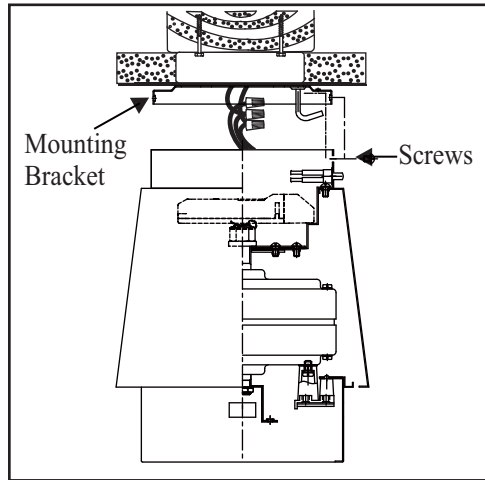

Figure 8
1. Move fan into position over the mounting bracket and secure with the 4 screws provided. (Fig. 8)